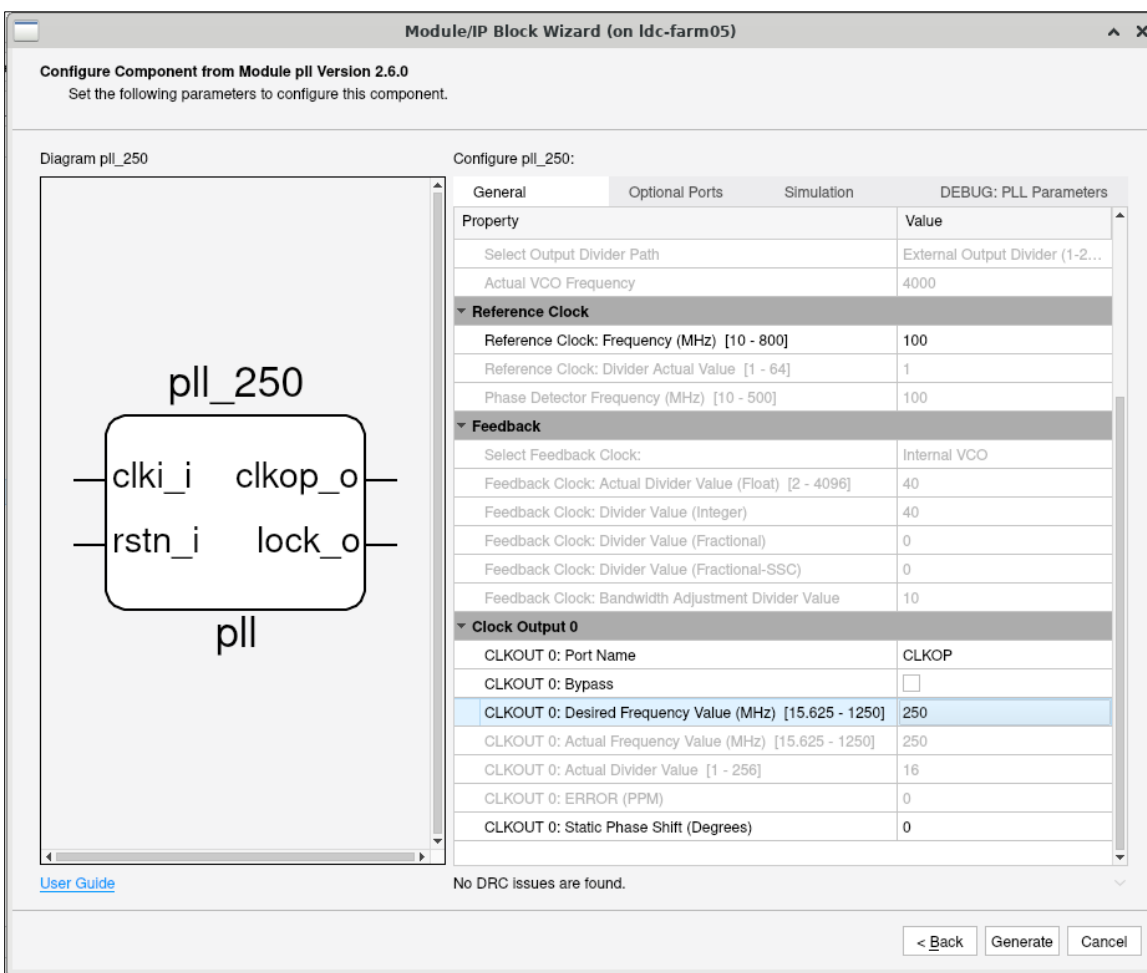

Figure 7.14. PLL IP Configuration for Input Clock of 100 MHz
- For sys_clk_i, refer to Table 2.1 on selecting the frequencies for Gen1, Gen2, Gen3, or Gen4 data rates. You can use a PLL IP to create these clocks. Refer to the PLL Module IP User Guide \(FPGA-IPUG-02063\) for instantiation and generation of PLL IP. Figure 7.14 shows the IP configuration for Gen 4 rates if using an input clock of 100 MHz.